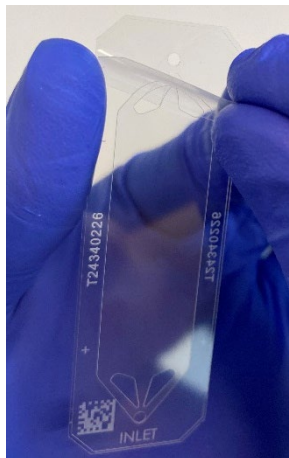

Figure 2. Removing the protective film from the WSIC coverslip.
- c. Remove the film by pulling the tab down toward the opposite end of the WSIC coverslip (Figure 2). The film can be thrown away.